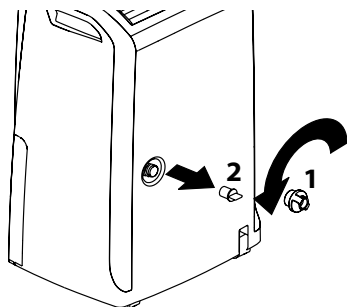

Fig. 2
- 1) Remove the continuous drain cap **1** by turning it counter-clockwise then remove the rubber stopper **2** from the spout (fig. 2).
Note: Some leakage from the spout could happen when removing the rubber stopper **2** (fig. 2).